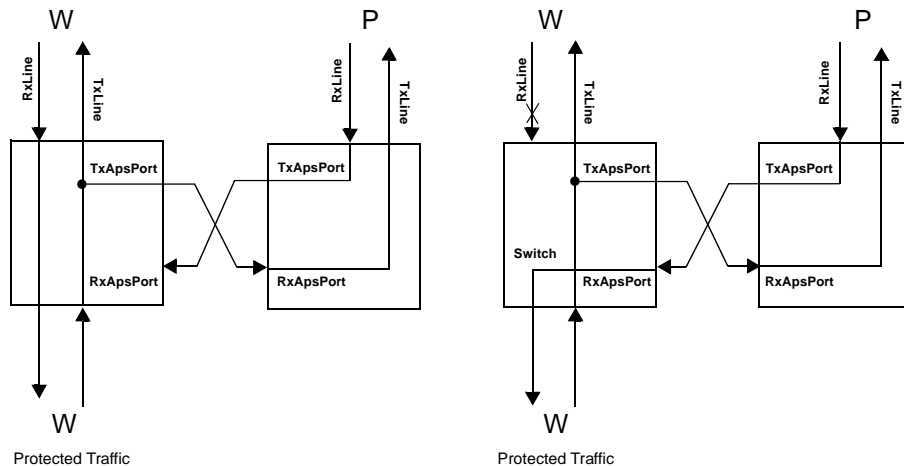

Figure 30. STM-4/OC-12, 1+1 APS
Figure 30 shows an example of a 1+1 APS protection architecture in STM-4/OC-12 mode. One PHAST-12N device handles the Worker line (W) while a second PHAST-12N handles the Protection line (P). Both devices are interconnected through the full bandwidth of APS Port interface. The cross connects of both devices setup a permanent bridge from the Worker Transmit line to the Protection Transmit line over one of the APS Port interfaces. The received protection payload is available on the other APS Port interface.